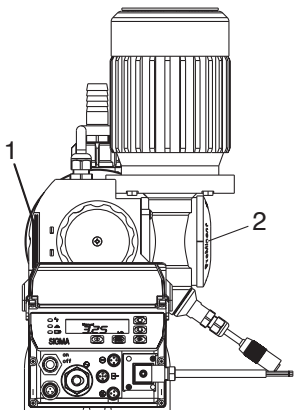

Fig. 2
- The bearing cover (1) must be fitted when in operation (see fig. 2).
- The design cover (2) must be fitted when in operation (see fig. 2).